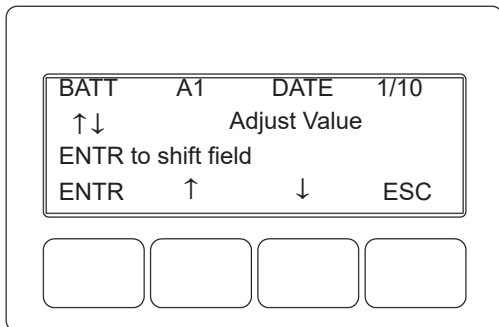

Fig. 2-24, Enter Battery Date Code
20. Enter the battery DATE code and the MHOs (conductance) readings. Battery date and MHOs entries can be made on the LCD (see Figs. 2-24 and 2-25).